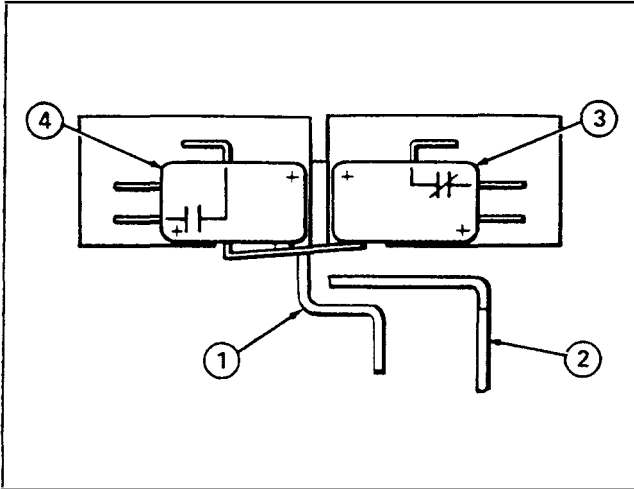

Figure 7a.
Motor Cutoff Switches (For Electrically Operated Breakers) (See Figures 7a-7c)
(Note that Figures 7a-7c are depicted as viewed from below) In Figure 7a, note that spring position lever (1) is forward, actuating both switches. Motor/gear position (2) lever is retracted. Motor cutoff switch (3) is closed. Application of power at this time will cause the motor to start thereby charging the closing springs.